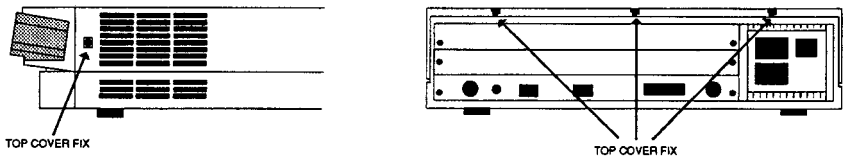

Figure 8: The screws holding the top case
- 2 Locate the screws holding the top cover in place (see Figure 8: The screws holding the top case). Remove the three screws at the top rear of the computer, then remove the single screw located on each side of the unit, towards the front.